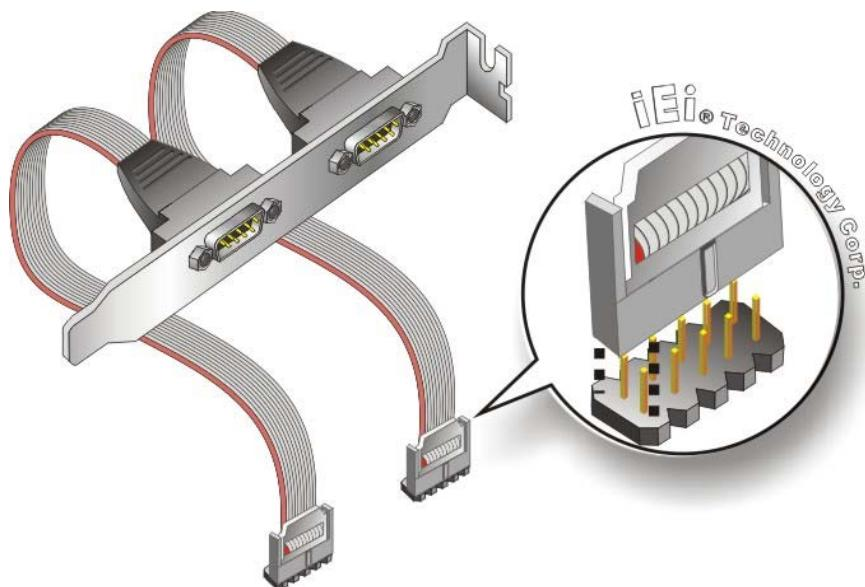

Figure 4-15: Dual RS-232 Cable Installation
Step 2: Insert the cable connectors. Insert one connector into each serial port pin headers. See **Figure 4-15**.